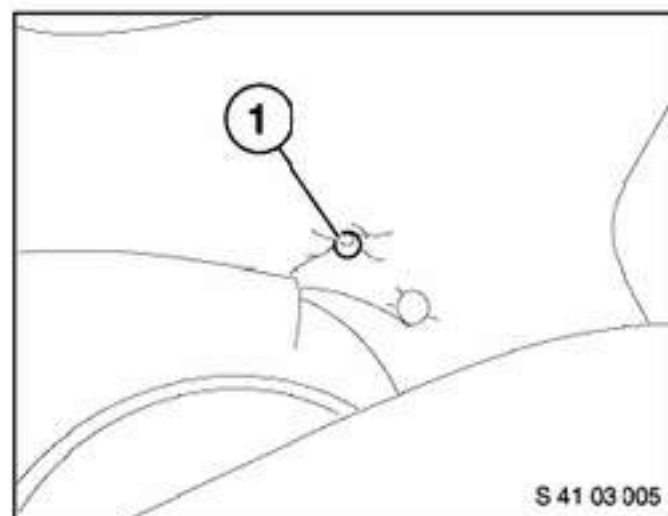

Figure 1
2. Check the area of the rear left rear-axle support for fractures. Fractures may emanate from welding points (please refer to figure 1).